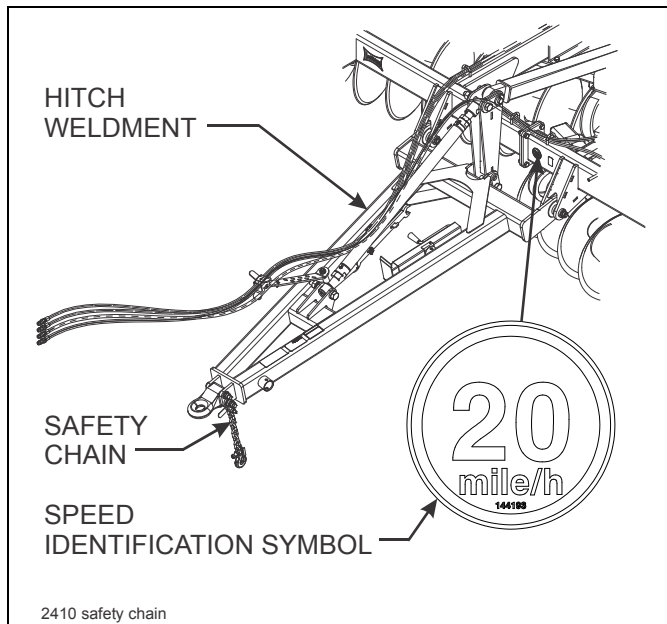

Figure 4-9: Hitch and Safety Chain
- b. Attach the safety chain to the tractor drawbar **(See Figure 4-9.)** Provide only enough slack in the chain for turning. Do not use an intermediate chain support as the attaching point for the chain on the tractor. Do not pull the implement by the safety chain.